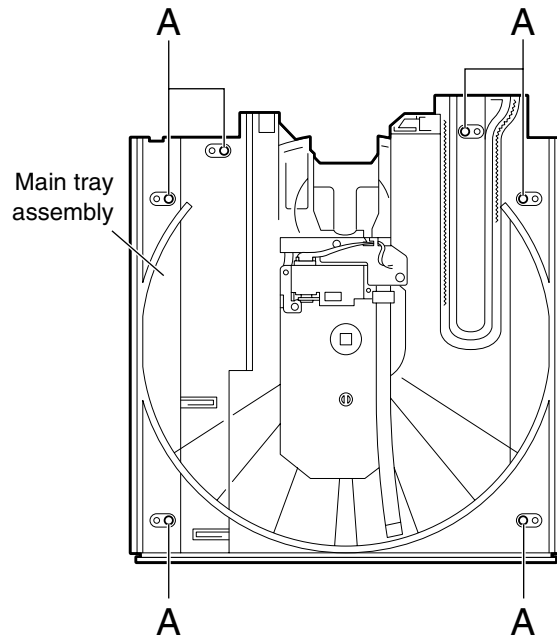

Fig.2
■ Removing the main tray cover and the main tray (See Fig.2 and 3)